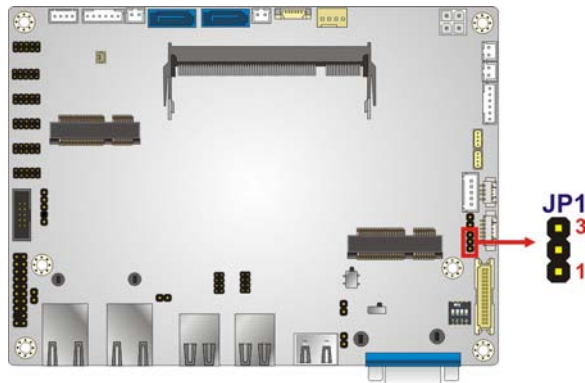

Figure 4-5: LVDS Voltage Selection Jumper Location
- Jumper Location: See **Figure 4-5**